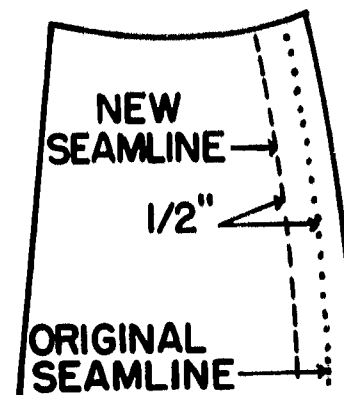

Figure 38.
8. If the amount to be taken out was written on the tag instead of being pinned by the fitter, a different procedure is followed. The amount on the tag must be divided in half because equal amounts need to be taken from each side seam to keep the seamlines in the correct position on the body. For example, suppose the waistline and the hip line of a plain skirt are to be decreased two inches. One inch would be taken out of each side seam. Remember, however, that the amount to be taken out of each side seam must again be divided in half when determining the depth of the new seamline. Thus, a chalk mark would be made 1/2 inch from the original seamline at the hip line and waistline (see Figure 38). Refer to Step 7 for the rest of the marking procedure.